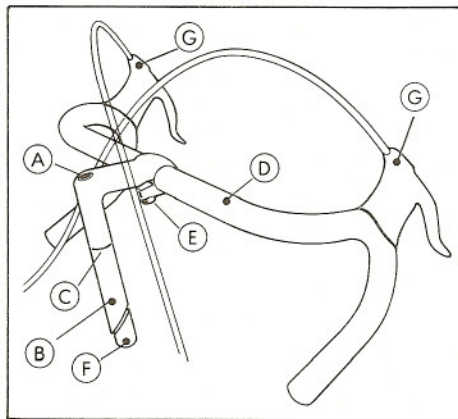

Figure 2. Handlebars and Stem
Slide the stem onto the handlebars until it is centered and positioned as shown in Figure 2. Tighten the handlebars on the stem with the handlebar clamp bolt (E). Next apply a liberal amount of grease to the lower portion of the stem, expander bolt (A), and wedge. Loosen the expander bolt with a 6 mm hex wrench and insert the handlebar assembly into the fork steerer tube so that the minimum insertion mark is not visible.
Install brake lever on handlebars at the locations shown in Figure 2. Slide clamp band over the handlebars.